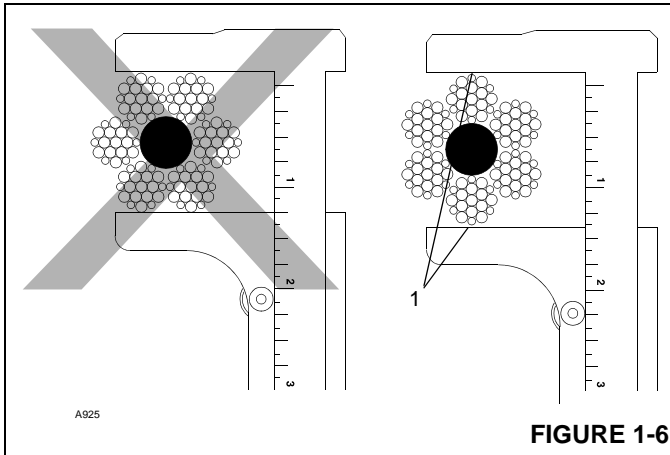

FIGURE 1-6
- Measure the rope's diameter across crowns of the strands when determining if rope has become damaged, refer to Figure 1-6.